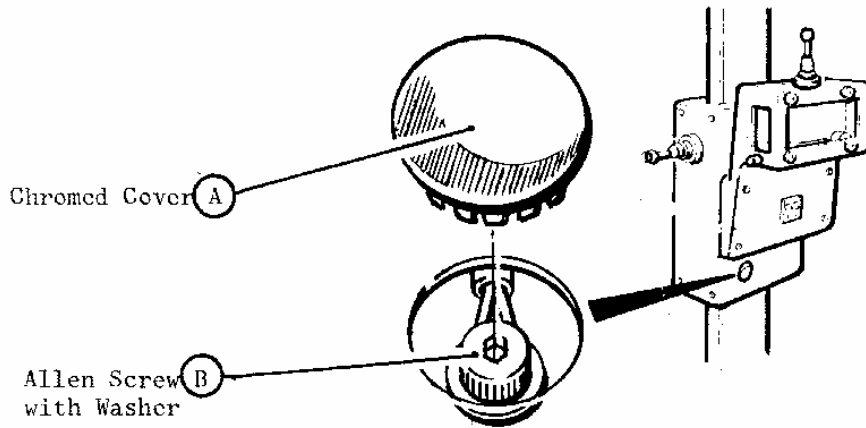

Fig 61 Connection of Counterbalance Cable to Safety Brake
Carefully prise off the cover (A), Fig 61.
Position the carriage end of the new cable (see Fig 61) using a tool such as a piece of stiff wire. Replace the Allen screw (B) and its washer.